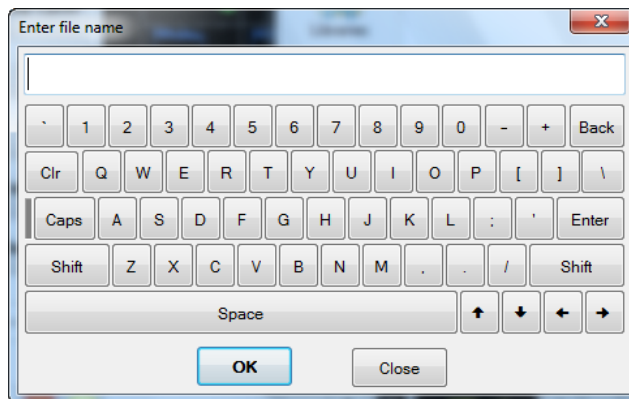

Figure 2-49 On-screen keyboard
- 3 Select **Keyboard** on the Save Waveform dialog to display the on-screen keyboard as shown in Figure 2-49. This is useful when there is no keyboard connected to the 8990B.
- 7 Select **Keyboard** on the Load Waveform dialog to display the on-screen keyboard as shown in Figure 2-49. This is useful when there is no keyboard connected to the 8990B.